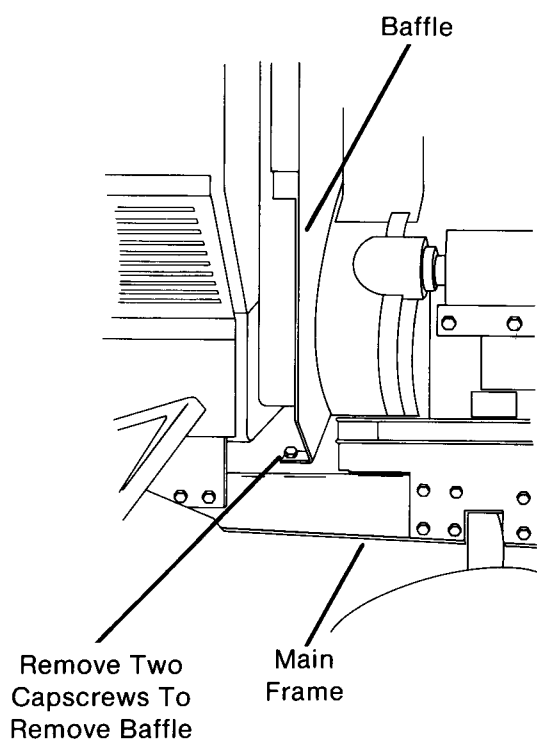

FIG. 12
- C. Insert feeler gauge through access slot and into air gap between armature and rotor. (Fig. 12) There should be some resistance felt when clutch/brake is properly adjusted. Repeat this step in at least three locations on clutch/brake. If feeler gauge cannot be inserted into air gap or gap is too large, follow procedure below to adjust.
12 H.P. Engines - Two capscrews at bottom of baffle, holding baffle to main frame. (Fig. 12)